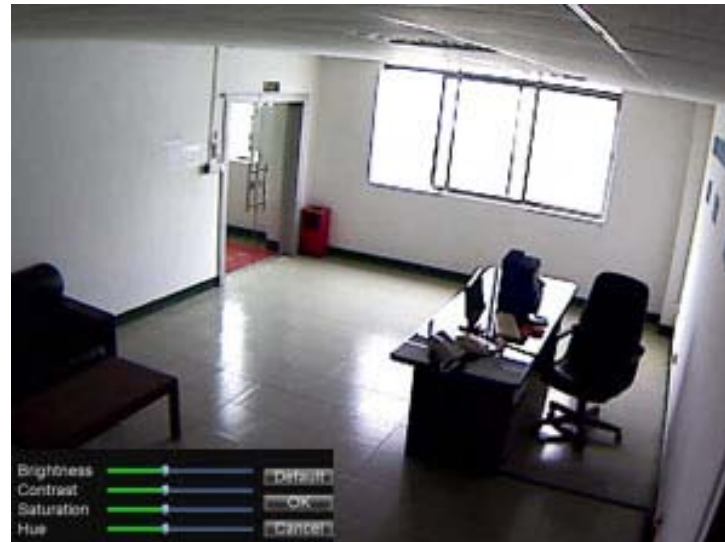

Figure 12.2. Display Settings
- 4) Adjust the display settings, as shown in Figure 12.2. Brightness, contrast, saturation and hue can be adjusted in the menu. The adjustments of display settings will affect the live images and the recorded images.